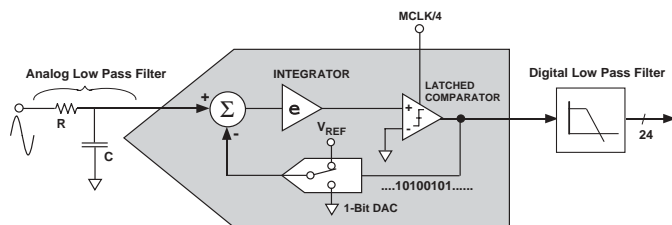

Figure 17– First Order Sigma-Delta ( $\Sigma$ - $\Delta$ ) ADC
The analog-to-digital conversion in the ADE7753 is carried out using two second order sigma-delta ADCs. For simplicity reason, the block diagram in Figure 17 shows a first order sigma-delta ADC. The converter is made up of two parts: the sigma-delta modulator and the digital low pass filter.
Figure 17 also shows an analog low pass filter (RC) on the input to the modulator. This filter is present to prevent aliasing. Aliasing is an artifact of all sampled systems. Basically it means that frequency components in the input signal to the ADC which are higher than half the sampling rate of the ADC will appear in the sampled signal at a